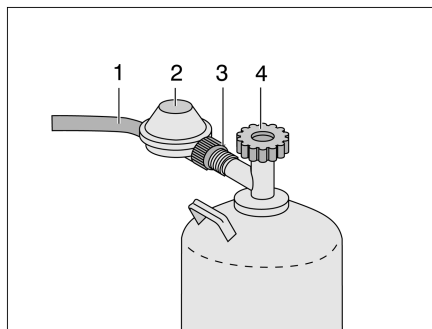

Fig. 229 Gas bottle connection
- Close the regulator tap (Fig. 229,4) on the gas bottle. Pay attention to the direction of the arrow.
- Hold the gas pressure regulator (Fig. 229,2) and open the knurled nut (Fig. 229,3) (left-handed thread).
- Remove the gas pressure regulator and the gas tube (Fig. 229,1) from the gas bottle.
- Position the gas pressure regulator (Fig. 229,2) and the gas tube (Fig. 229,1) on the gas bottle and tighten the knurled nut (Fig. 229,3) by hand (left-handed thread).